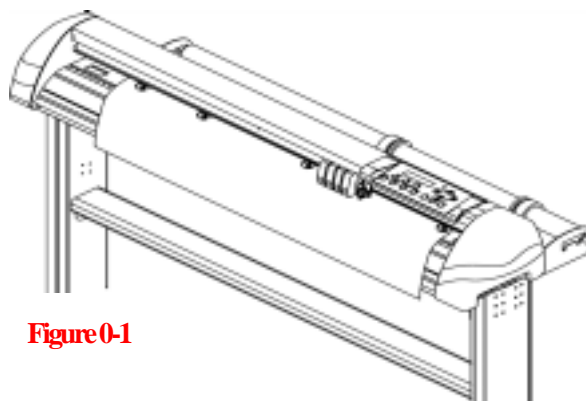

Figure 0-1
3. After loading the roll media all pinch rollers are raised at this stage, flatten the media on the platen and hold the front edge of the roll media firmly. (See Figure 0-1)